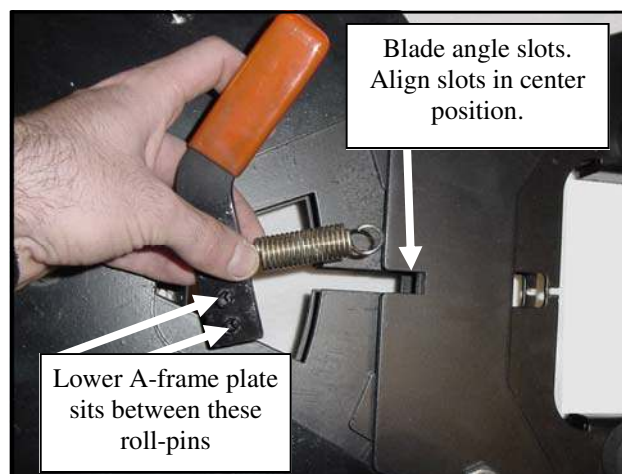

Fig. 7.4—Blade angle handle oriented correctly
- 7.4 Install the blade angle handle. For easiest installation, be certain A-frame is oriented as in fig 7.4, with the trip frame blade angle slot aligned with the A-frame angle slot in the center position. Orient the blade angle handle so that the spring and handle point away from the moldboard, per fig.7.4
- 7.5 Per figs. 7.4 and 7.5, slide blade angle handle and spring into blade angle slot, being certain to capture lower A-frame plate between the angle handle roll pins.